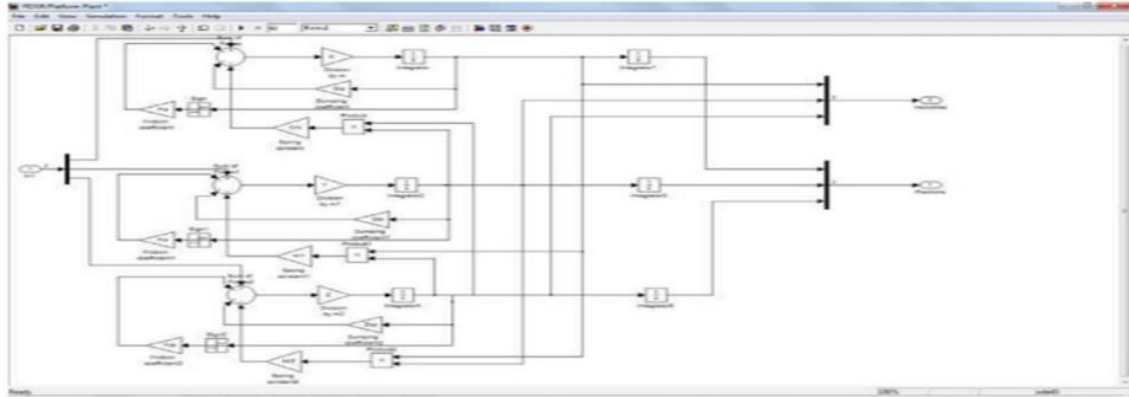

Fig. 12. The platform plant simulation
The model in fig. 12 is the graphical representation of equations (6), (7) and (8). It's obtained by using the Simulink toolbox.